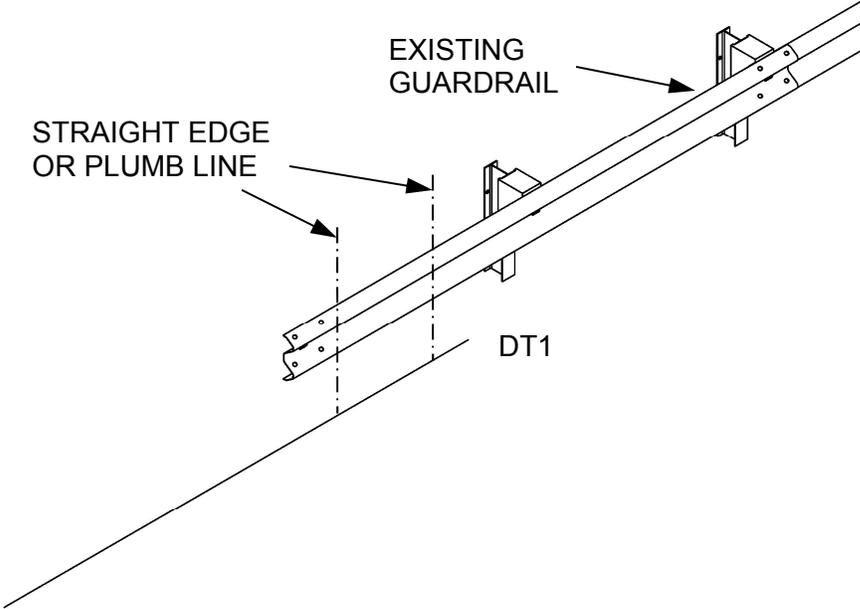

Figure 2 - Determining Post Location
- 1.1 Using a straight edge or plumb line down the existing guardrail face (i.e., traffic side) to the ground, create a datum line (DT1) on the ground. Ensure that this line is parallel with the existing guardrail face. Extend this line ~40' upstream from the end of the existing guardrail. Verify that the datum (DT1) remains parallel to the existing guardrail (Figure 2).